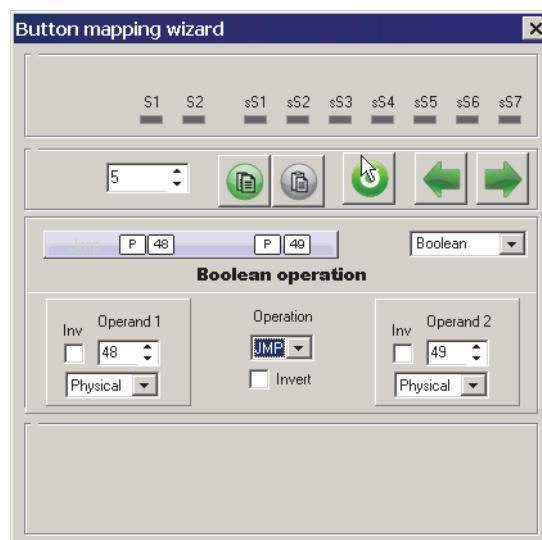
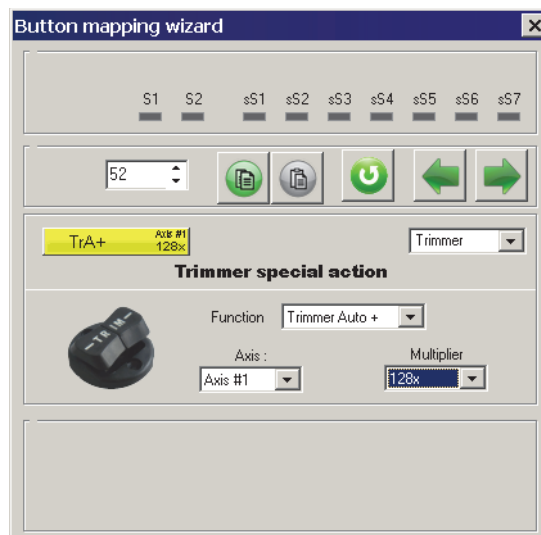

Fig. 4.62.
Fig. 4.64.
**Button mapping wizard** dialog for Jumper function is shown on Fig. 4.62.
Jumper function with parameters shown on Fig. 4.62, maps logical line 54 to physical 52. Trimmer Auto+ function is assigned to this **physical** line (Fig. 4.64).